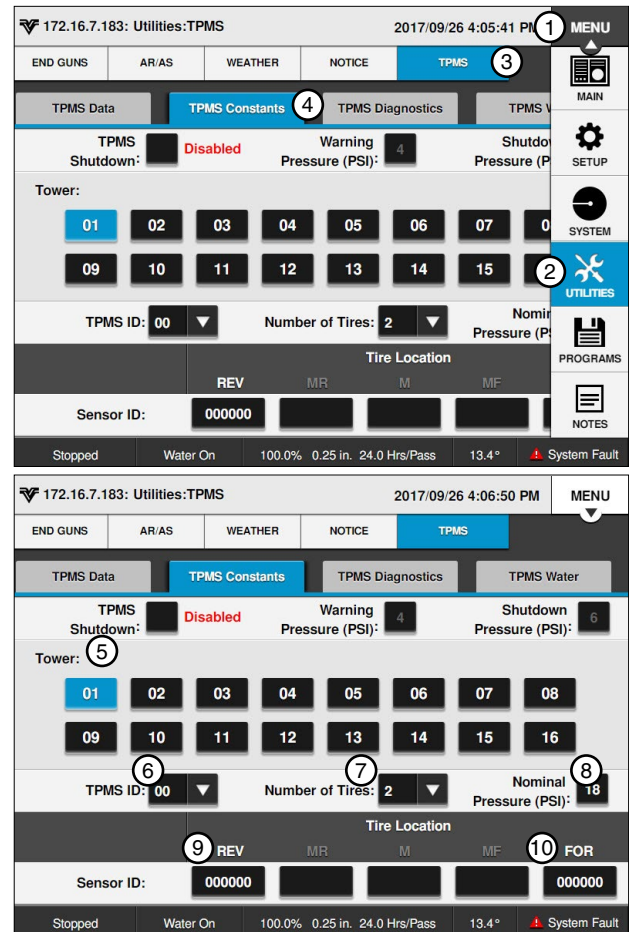

Figure 83-1
The TPMS Sensor Setup screen is used to set the following sensors for any tower. Refer to Figure 83-1.
2. Select the tower number. Tower 1 is the tower closest to the pivot point. The range is 1-16. Refer to Figure 83-1.
8. Select one of the **Sensor ID** fields. Refer to Figure 83-1.
- Three tires - Enter the reverse tire sensor ID, the mid (M) tire sensor ID, and the forward tire sensor ID
- Four tires - Enter the reverse tire sensor ID, the mid-reverse (MR) tire sensor ID, the mid-forward (MF) tire sensor ID and the forward tire sensor ID